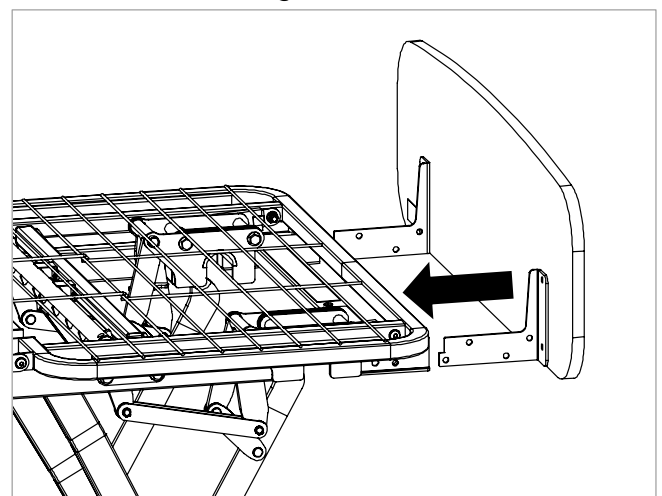

Figure 8.6
12. Take the footboard and locate the mounting brackets into the channel sections on either side of the foot end of the bed; slide the footboard and brackets all the way into the channels as Figure 8.6.